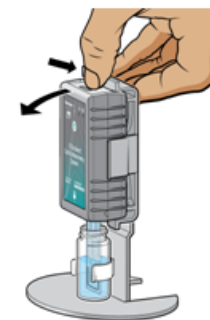

Figure 3
6. When you are ready to change your sample, carefully remove the Cyclic Voltammetry System from the stand by pulling back on the top tab (Figure 3).